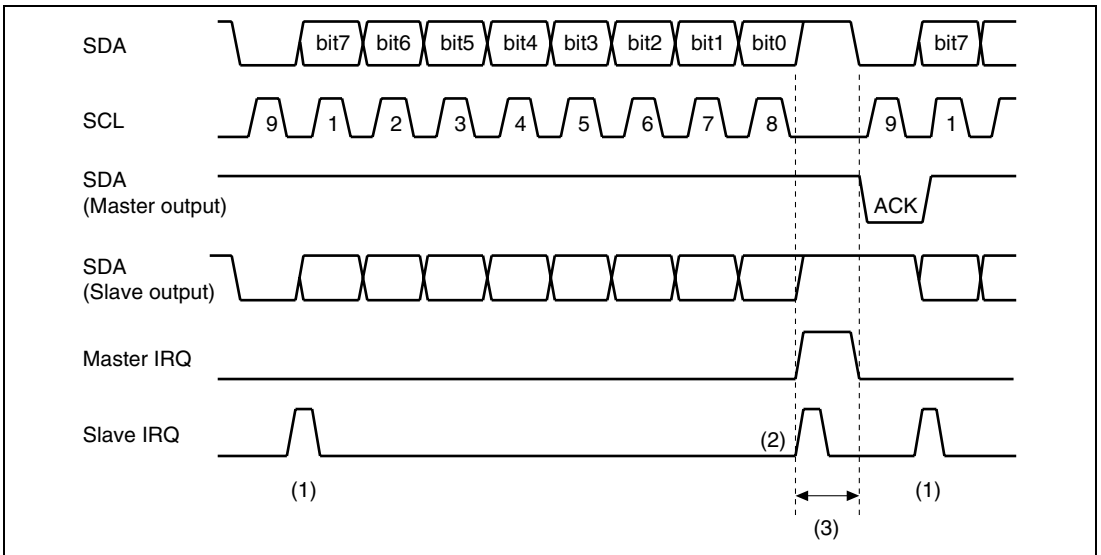

Figure 16.11 Data Receive Mode Operation Timing
Data receive procedure and operation in master receive mode is described below. Figure 16.11 shows the operation timing in master data receive mode.
2. The slave device automatically goes into data transmit mode by the signal that indicates the data transfer direction, and transmits 1-byte data synchronously with the SCL clock output from the master device. The master device generates the IRQ of MDR (bit 1) at the eighth clock (in the timing of (2) in figure 11). Clear the MDR bit after the master device reads receive data. If this processing is delayed, the slave device extends the SCL period to suspend data transmit, as shown in the timing of (3) in figure 16.11.
3. The slave device generates IRQ of the status SDT (bit 2) indicating 1-byte data transfer end at the eighth clock (in the timing of (2) in figure 11) and IRQ of the status SDE (bit 3) indicating data empty at the ninth clock (in the timing of (1) in figure 16.11). Clear SDE after writing slave transmit data to TXD.
Timing from (1) to (3) in figure 16.11 is generated after the falling edge of the clock.